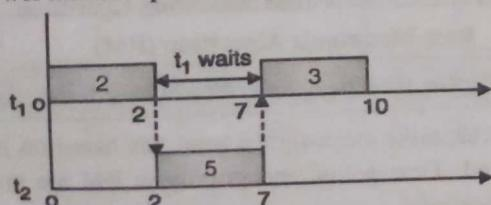

Fig. 1.2.5 : pre-emptible tasks Execution
- As shown in Fig. 1.2.5, t1 is pre-empted at 2 sec before completion as t2, a task with higher priority arrives in the system.